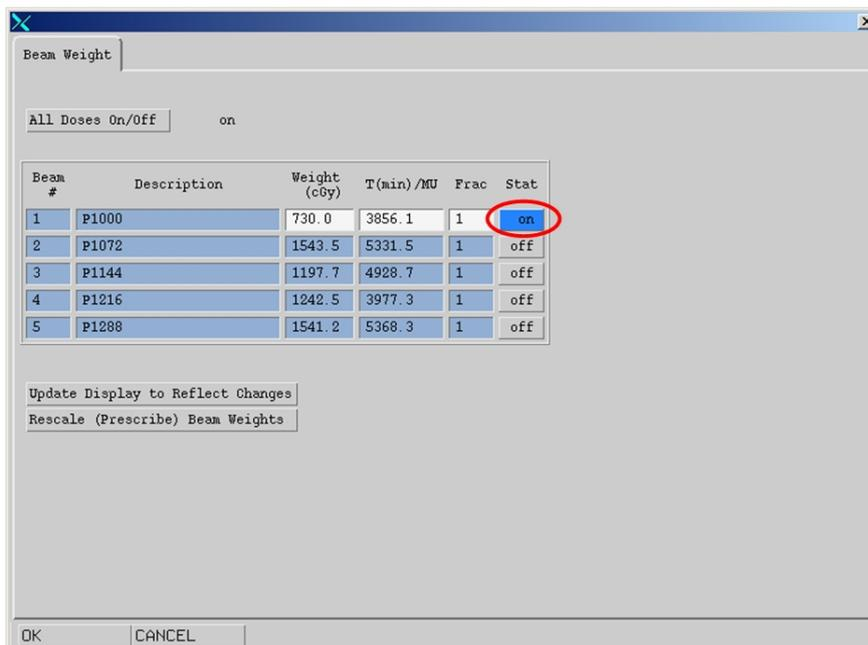

Figure 9 - Setting ON / OFF the treatment fields in the "Dose Weight" dialog box
- Select "ON" (see figure 9) for each single field if the aim is to check independently each single field at nominal gantry angle (0°), repeating this procedure for each field of the plan, or select "ON all available fields of the plan", if the aim is to check the full plan at once, with a single measurement and keeping the original gantry angles (figure 9);